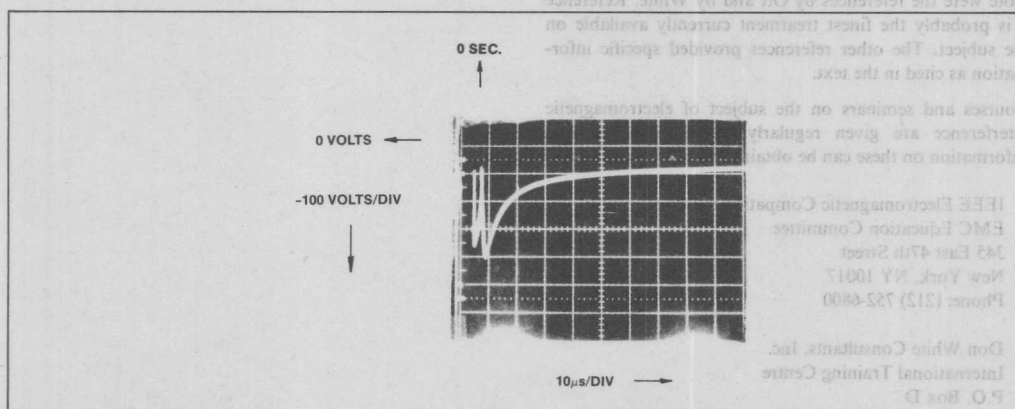

Figure 25. Transient Created by De-energizing an Air Conditioning Clutch Solenoid
- Miscellaneous solenoid switching transients, such as the one shown in Figure 25, can drive the line to + or -200 to 400V for several  $\mu$ sec.
When the ignition is turned off, as the field excitation decays, the line voltage can go to between -40 and -100V for 100 msec or more. Mischievous solenoid switching transients such as the one shown in Figure 25, can drive the line to +300 to 400V for several msec.